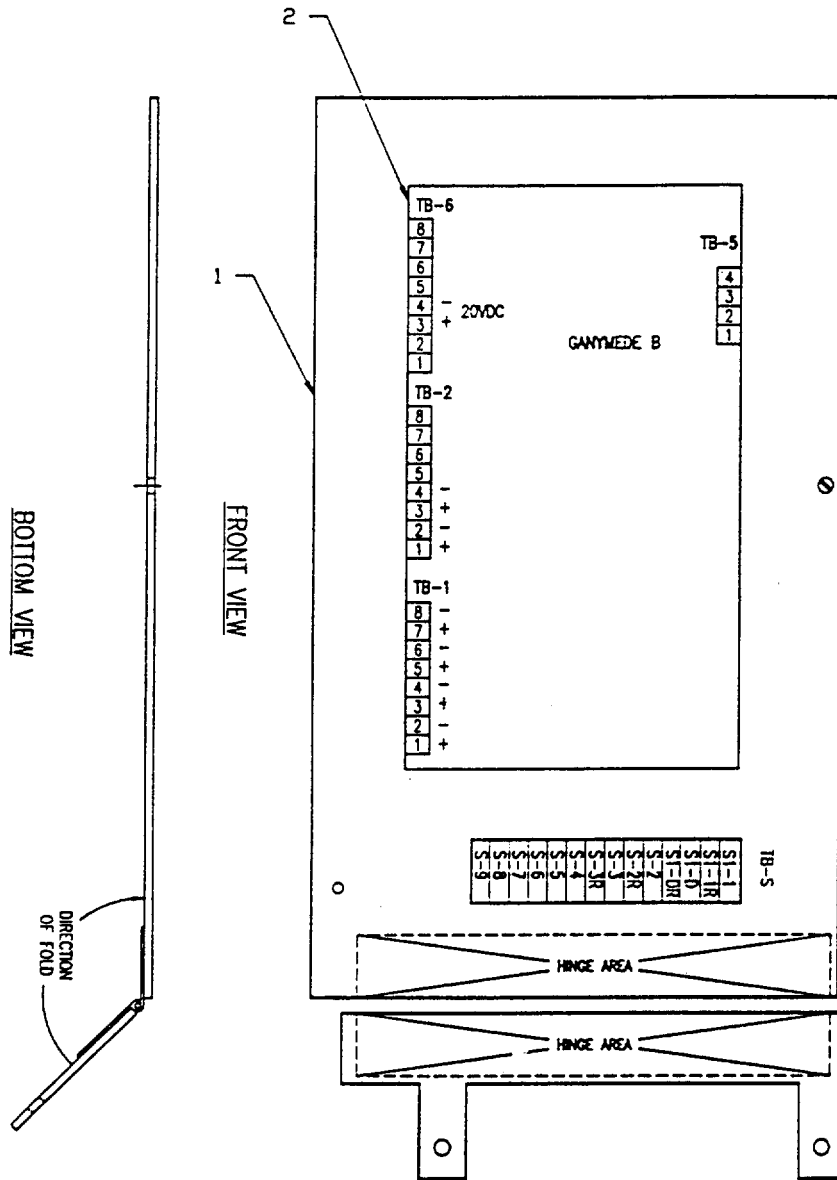

Figure 1-17. J-SIIDS to Ganymede Interface
m. J-SIIDS Ganymede Interface (See Figure 1-17)